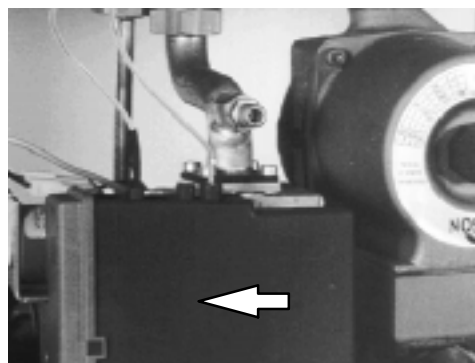

fig. 51
- 4 remove the ignition device by moving it from towards left (fig. 51);